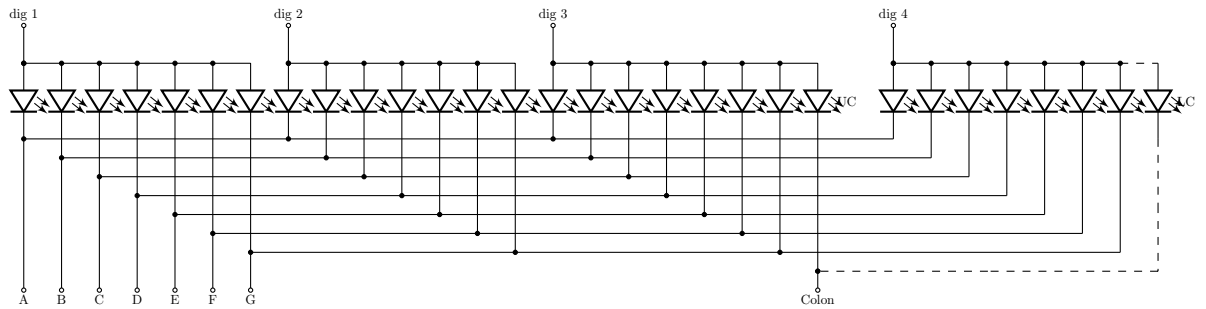

Figure 5: A 4-digit common anode display with a separate segment pin for colon
Additional segment pin for colon. Two separate LEDs are used for the upper and lower dot in the colon (UC and LC) as shown in Fig. 5. They share an additional segment pin (labelled “colon”) for turning on/off colon. They share digit pins with other digits. On some variants only one LED (UC) is present (at least apparently). This is indicated by the dashed line. These kind of displays are configured by `setColonPin()`.